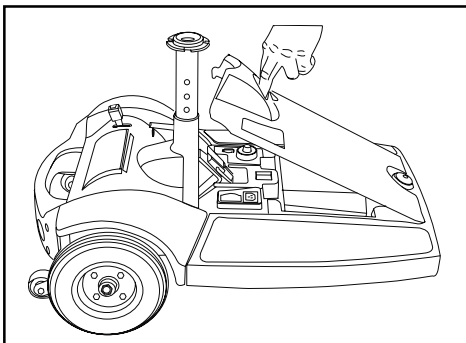

Figure 10. Battery Compartment Lid
1. Remove the battery compartment lid. See figure 10.